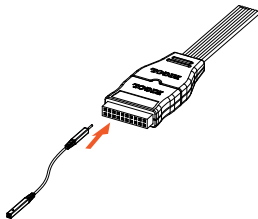

Figure 2
- ◆ Method two: you can connect the signals under test through leads separately. At this point, the probe adaptor must be connected as shown in figure 2. You can easily identify the corresponding channel of each signal by the color rings on the leads and the color information on the adaptor.